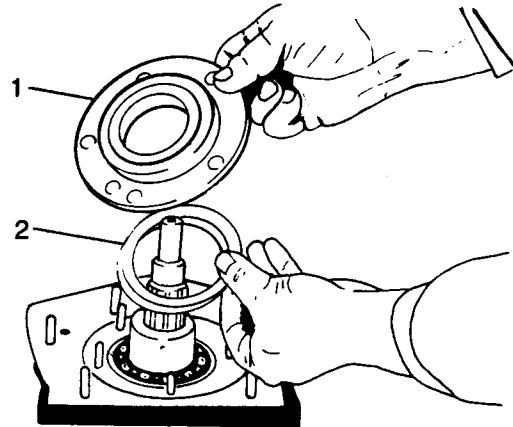

Fig H1.51
- (12) Refer to Fig H1.51. Remove the oil seal retainer (1) and the adjusting washers (2) of the main shaft rear bearing, taking special care not to alter the thickness of these washers.